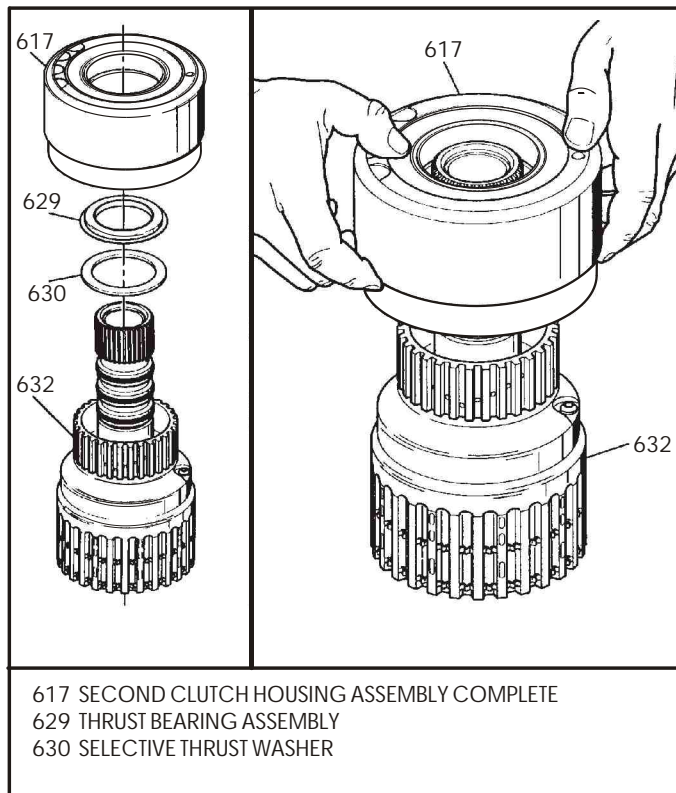

Figure 168
55. Once again stand the complete input housing assembly, with the dual sprag assembly in the housing up on the input sun gear, as shown in Figure 168.
56. Install the proper selective thrust washer onto the input housing as shown in Figure 168.
57. Install the thrust bearing assembly in direction shown in Figure 168 onto the selective washer.
58. Install the second clutch housing on the input housing by rotating back and forth until all of the second clutch lined plates are engaged and the drum is fully seated (See Figure 168).